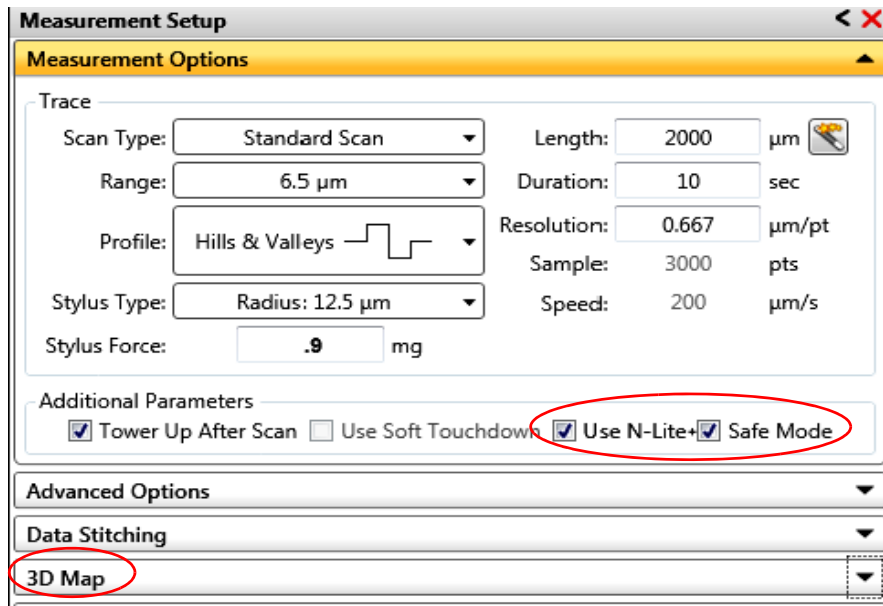

Figure 4-3: Measurement Options Dialog Box with N-Lite+ and 3D Mapping Options
- **Map Scan:** If your system includes the 3D Mapping Option, select this scan type to measure, analyze, and view surface contour data in three dimensions (X, Y, and Z) (see Figure 4-3).
Use N-Lite+: If your system includes the N-Lite+ Option (see Figure 4-3), select this check box to make the DektakXT stylus profiler adjust the stylus force down to 0.03 mg for measuring very soft films or when using an extremely sharp, sub-micron stylus to measure sub-micron lines and trenches. Servo control suspends the stylus in a free-floating state, maintaining constant force, even over long steps. For more information, see the section that follows.
Measurement Setup dialog box (see Figure 4-3). Safe Mode is also automatically started anytime that N-Lite+ is being used.